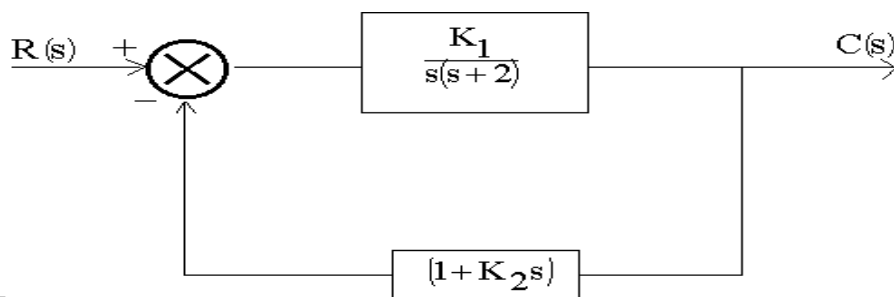

Fig.7
Q.5 a. For the system shown in the block diagram of Fig.7 determine the values of gain K_1 and velocity feedback constant K_2 so that the maximum overshoot with a unit step input is 0.25 and the time to reach the first peak is 0.8 sec. Thus obtain the rise time and settling time for 5% tolerance band.